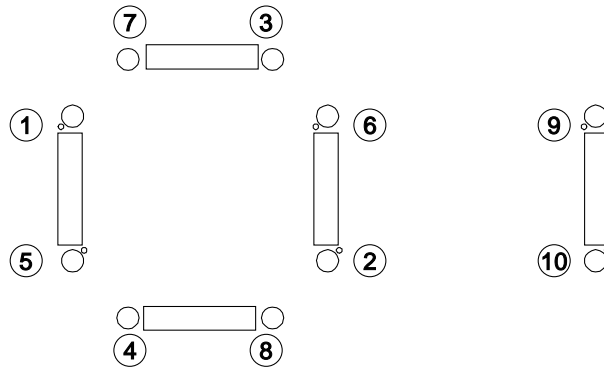

FIGURE 2-14 Tightening Pattern for the Memory Module
- a. Tighten the captive connector screws in the sequence shown in FIGURE 2-14 until they touch the metal plate.
- b. Tighten each captive connector screw in the sequence shown in FIGURE 2-14 an additional 1/2 turn.
- c. Tighten the captive connector screws to a final torque of 0.68 Nm (6.0 inch pounds) in the pattern shown in FIGURE 2-14.